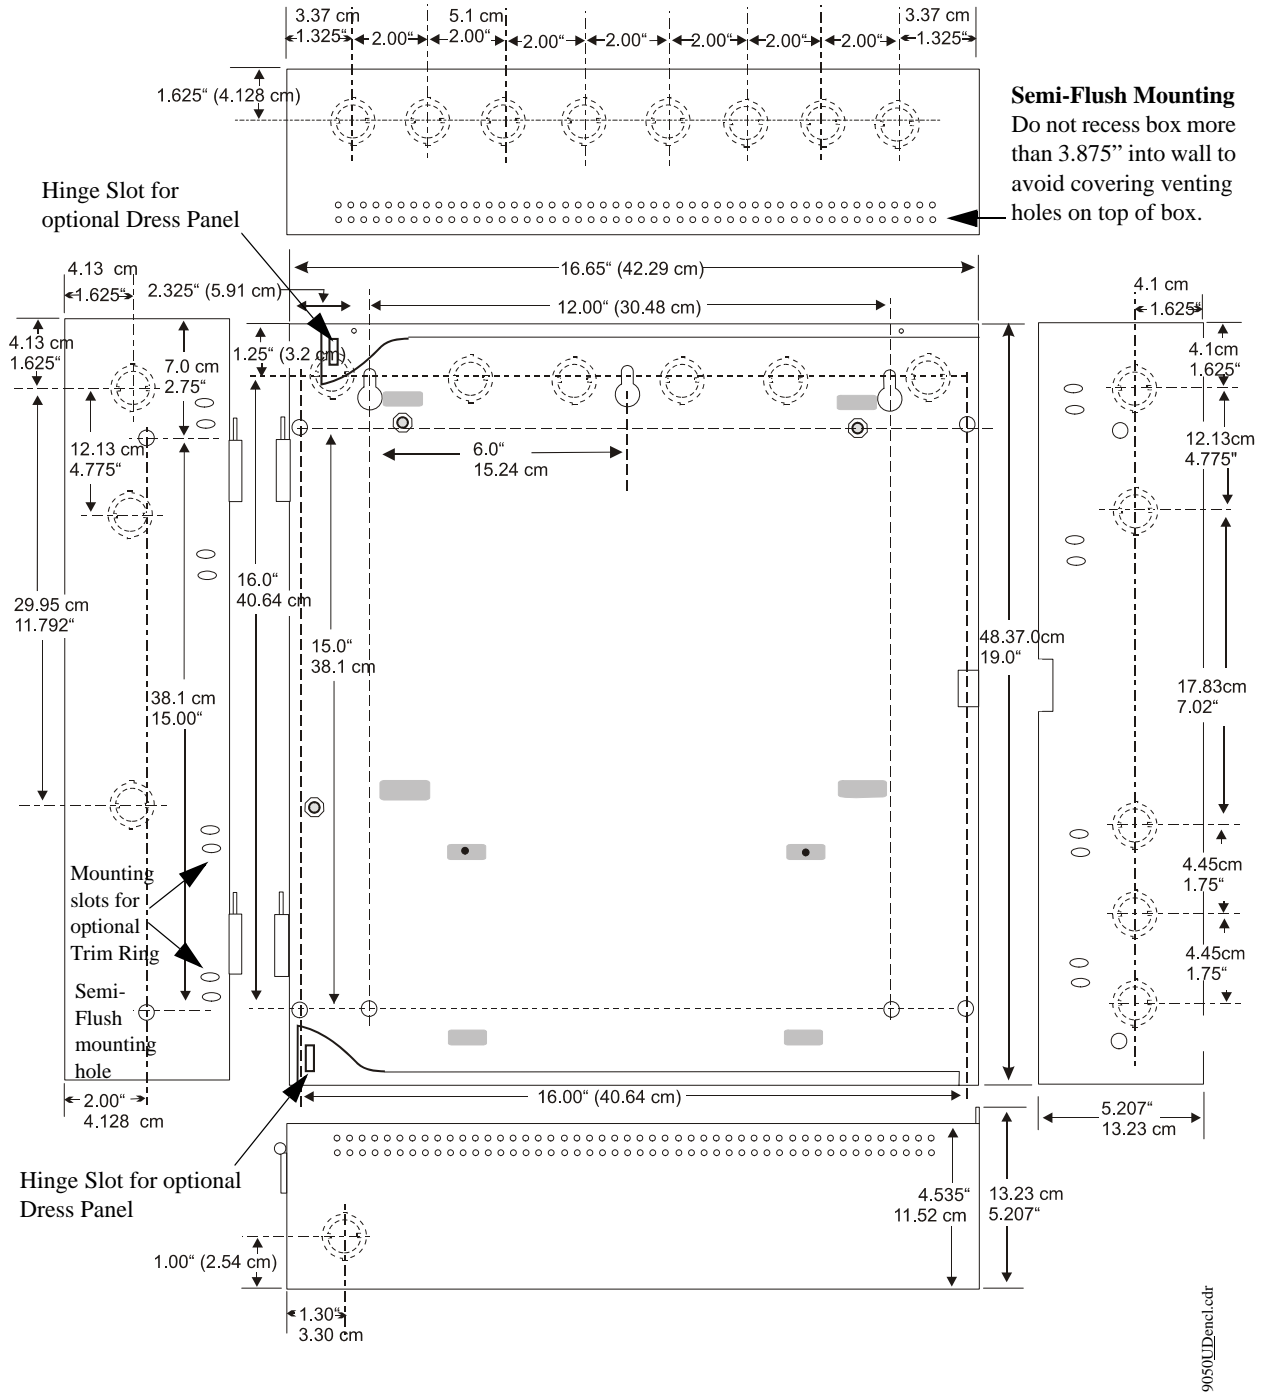

Figure 2.2 Cabinet Dimensions
- ✓ Mark and predrill hole in the wall for the center top keyhole mounting bolt using the dimensions illustrated in Figure 2.2 on page 24